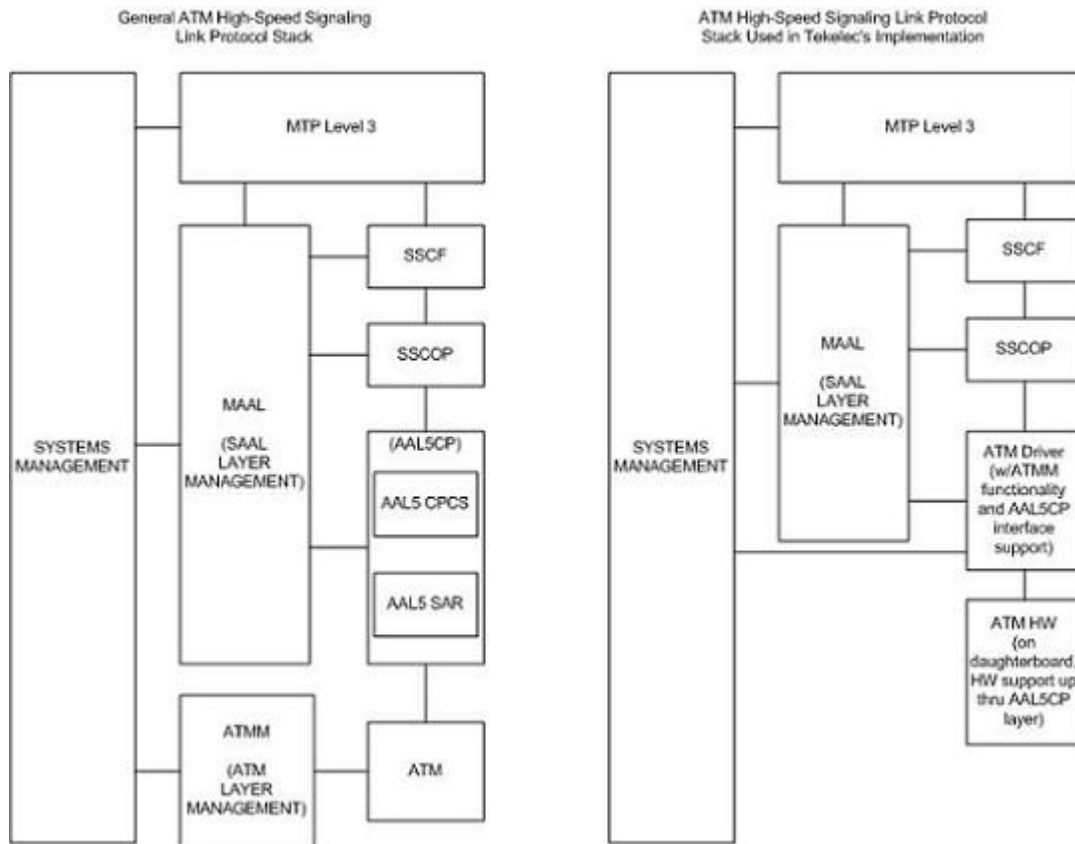

Figure 33: ATM High-Speed Signaling Link Protocol Stack vs. Oracle Implementation in the EAGLE
*Figure 33: ATM High-Speed Signaling Link Protocol Stack vs. Oracle Implementation in the EAGLE* illustrates some slight differences between the SAAL and ATM layers and the actual protocol stack used in the Oracle implementation. These differences are as a result of 3 reasons: